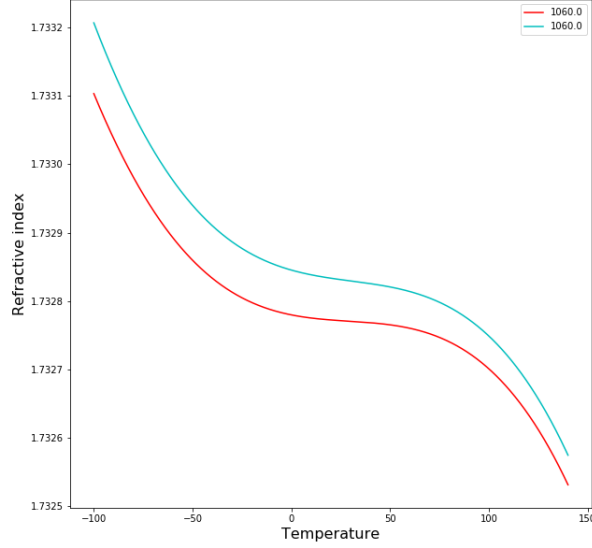
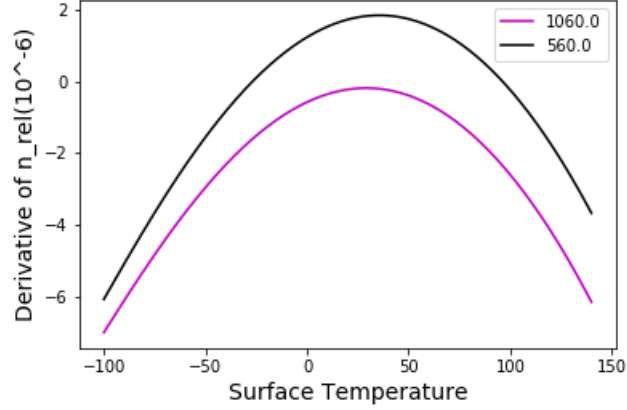

Figure 24: light blue color for pressure at  $P=90000$  Pa and red color for pressure  $P = 103250$  Pa
Figure 25: rate is changed drastically at temperature around 30 to 40 celcius
Now refractive index at any given temperature and pressure is calculated from equation (30). In catalog, K-SFLD14 has reference temperature 20 celcius and I found the refractive index at temperature 40 celcius at pressure 103250 Pa. It gave the answer at wavelength 1060 nm around 1.7327685035899263. And at reference temperature with one atmospheric pressure is 1.7327813923080453. But if we keep temperature constant and decrease the pressure at 90000 Pa of surrounding then value is 1.7328256042662116. As we can see from data for refractive index at constant temperature but different pressure gives the different values. Reason for this trend is same as for N-BK7 and K-LAH99. Now the plot between refractive index for particular wavelength with temperature is in figure 24. For K-SFLD14, the refractive is decreasing with increasing of temperature. Now fourth plot is between change of rate of derivative of relative refractive index with temperature at pressure 103250 Pa. This gives the rate at which relative refractive index changes with temperature. In the figure 25, the rate is decreasing till 30 to 40 celcius and increasing after that. Here the rate is in negative and positive portion. That means that at some point refractive index does not change very much at that temperature. So these are all analysis